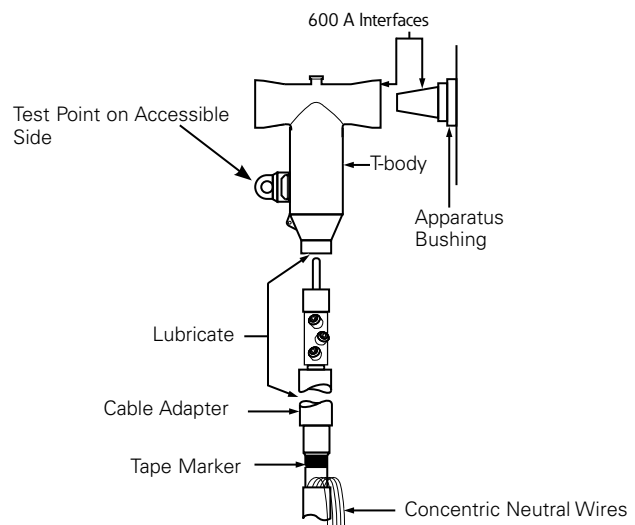

Figure 13. Line illustration of BOL-T T-body installation.
- Without moving the cable adapter, slide T-body onto cable adapter until compression connector eye is centered in 600 A interfaces. (Refer to Figure 13.)